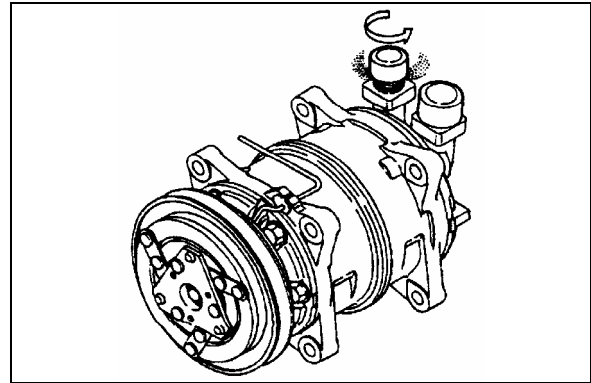

FIGURE 36: LOOSENING THE DISCHARGE SIDE CONNECTOR'S CAP
- * Loosen the discharge side connector's cap and gently release N² from compressor (Refer to figure 36).